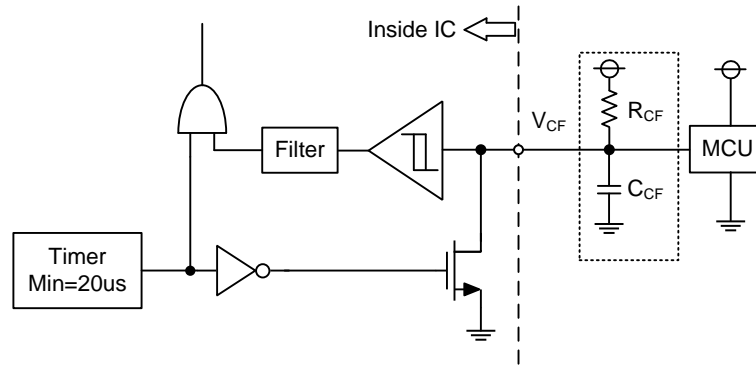

Figure 5. V_{CF} Output Circuit
- (1) If the control GND is connected with the power GND by common broad pattern, it may cause malfunction by power GND fluctuation. It is recommended to connect the control GND and power GND at a single point (N1), near the terminal of the shunt resistor.
- (2) There are two COM pins in the IPM but it is recommended to only use the (15) COM pin to minimize SC detection noise.
- (3) A zener diode D1 (24V/1W) is recommended between each pair of control supply pins to prevent surge destruction.
- (4) Prevention of surge destruction can further be improved by placing the bus capacitor as close to pin P and N1 as possible. Generally a 0.1-0.22 μ F snubber capacitor C3 between the P-N1 terminals is recommended.
- (5) Selection of the R1*C4 filter components for short-circuit protection is recommended to have tight tolerance, and is temperature-compensated type. The R1*C4 time constant should be set such that SC current is shut down within 2 μ s; (typically 1.5-2 μ s). R1 and C4 should be placed as close as possible to the C_{SC} pin. SC interrupting time may vary with layout patterns and components selection, therefore thorough evaluation in the system is necessary.
- (6) Tight tolerance and temperature-compensated components are also recommended when selecting the R2*C5 filter for V_{OT}. The R2*C5 time constant should be set such that V_{OT} is immune to noise. Recommended values of R2 and C5 are 2k Ω and 10nF.
- (7) To prevent malfunction, traces A, B, and C should be as short as possible.
- (8) It is recommended that all capacitors are mounted as close to the IPM as possible. (C1: electrolytic type with good temperature and frequency characteristics. C2: ceramic type with 0.1-2 μ F, good temperature, frequency and DC bias characteristics.)
- (9) Input drives are active-high. There is a minimum 3.5kΩ pull-down resistor in the input circuit of IC. To prevent malfunction, the layout to each input should be as short as possible. When using RC coupling circuit, make sure the input signal levels meet the required turn-on and turn-off threshold voltages.
- (10) V_{CF} output is open drain type. It should be pulled up to MCU or control power supply (max= 5±0.5V), limiting the current (I_{CF}) to no more than 1mA. I_{CF} is estimated roughly by the formula of control power supply voltage divided by the pull-up resistor R3. For example, if control supply is 5V, a 10kΩ (over 5kΩ) pull-up resistor R3 is recommended.
- (11) If only a pull-up resistor R3 of 10kΩ connected to V_{CF} pin, the fault output pulse width is fixed at minimum 20us. If a capacitor C6 is connected with a pull-up resistor R3, the fault output pulse width can be controlled according to the resistor value and capacitor value. For the design guide, please refer to the Figure 5.
- (12) Direct drive of the IPM from the MCU is possible without having to use opto-coupler or isolation transformer.
- (13) The IPM may malfunction and erroneous operations may occur if high frequency noise is superimposed to the supply line. To avoid such problems, line ripple voltage is recommended to have $dV/dt \leq \pm 1V/\mu s$, and $V_{ripple} \leq 2V_{p-p}$.
- (14) It is not recommended to use the IPM to drive the same load in parallel with another IPM or inverter types.